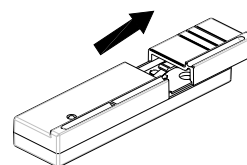

FIGURE 9a
1. Remove the battery cover by sliding off. (FIGURE 9a)